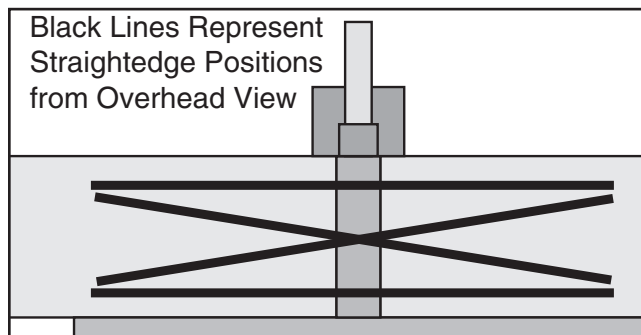

Figure 49. Straightedge positions for checking infeed/outfeed table parallelism.
5. Place the straightedge in the positions shown in **Figure 49**. In each position, the straightedge should sit flat against both the outfeed table and the infeed table.
8. Place the straightedge in one of the positions shown in **Figure 49**, and adjust the eccentric bushings under the infeed table so the straightedge lies flat against both tables. Repeat this step with each of the remaining straightedge positions as many times as necessary until the infeed table is parallel with the outfeed table.